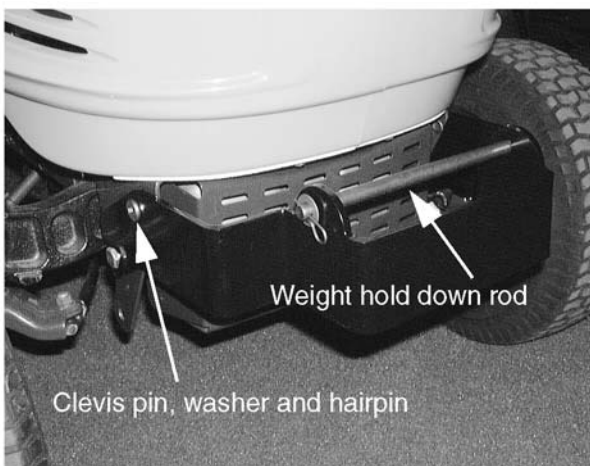

Figure 8-61.
1. Remove the clevis pins, flat washers and hairpin clips found on each side of the weight bracket. See Figure 8-61.